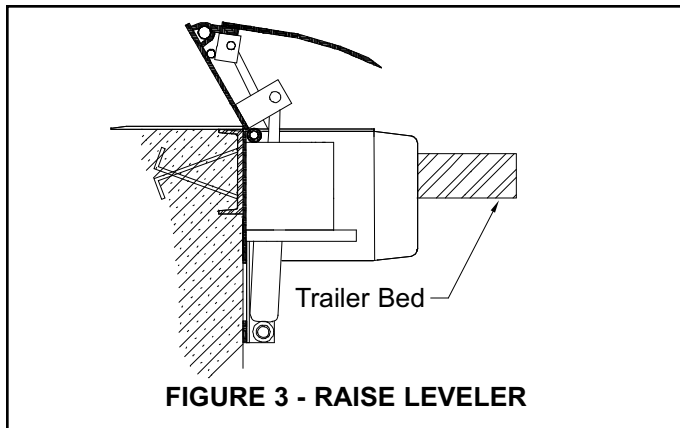

FIGURE 3 - RAISE LEVELER
1. Push and hold the "UP" button to raise the leveler until the deck plate goes beyond vertical, approximately 30 degrees, and the extension mechanism is engaged with a "click" sound. See figure 3.